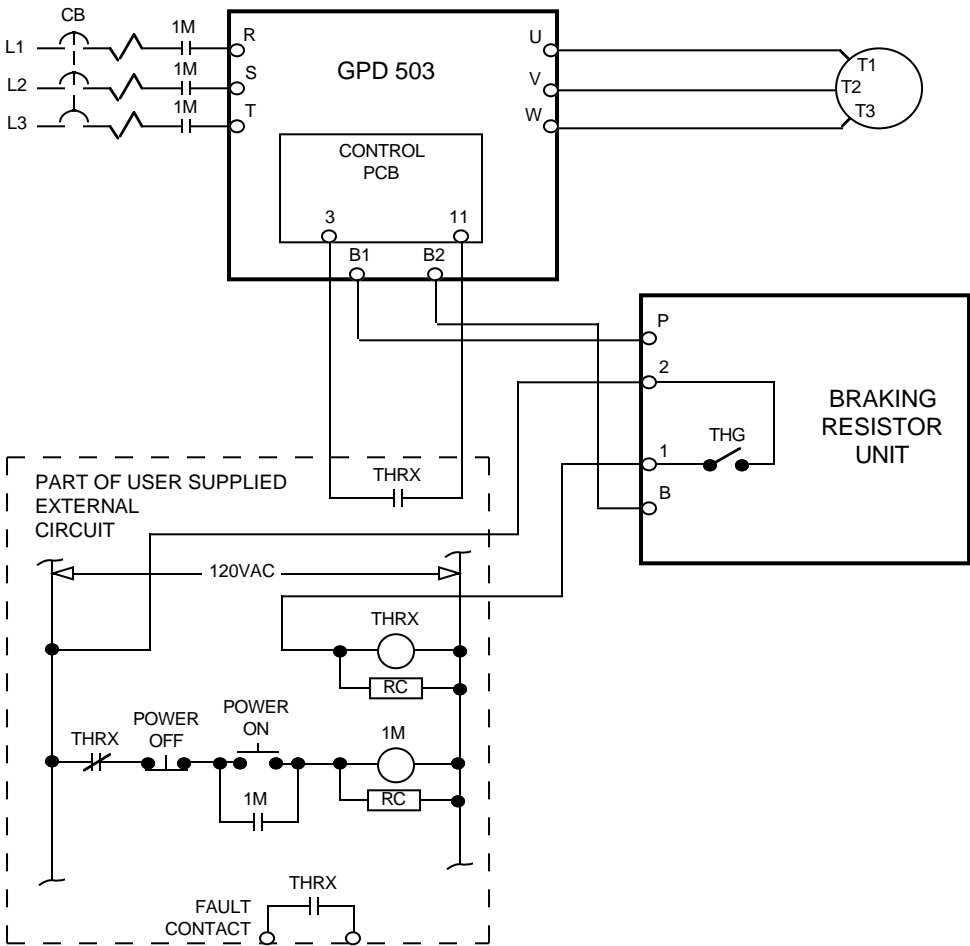

Figure A7-3. Wiring Braking Resistor Unit to Drive (230V 1-10HP(CT), 460V 1-20HP(CT), 575V 2-25HP(CT))
2. Remove the Braking Resistor Unit front cover to access its terminal block. Connect the Braking Resistor Unit to the drive and to external control circuitry according to the chart at right and Figure A7-3.